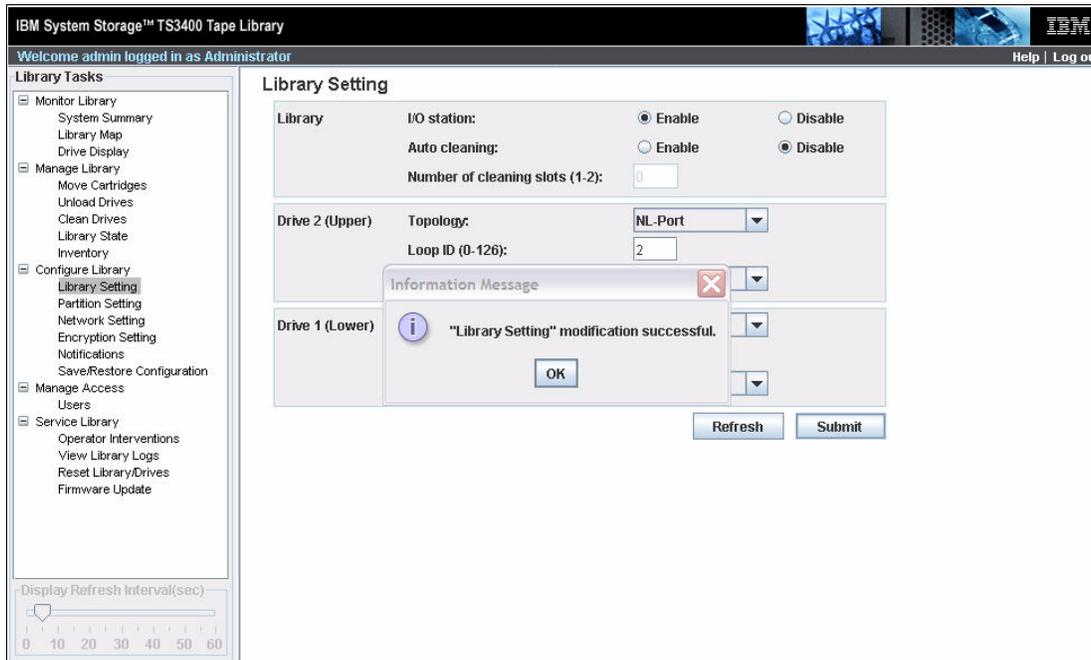

Figure 8-23 After enabling the I/O station
3. Click **Submit** to enable the I/O station. The TS3400 responds as shown in Figure 8-23.